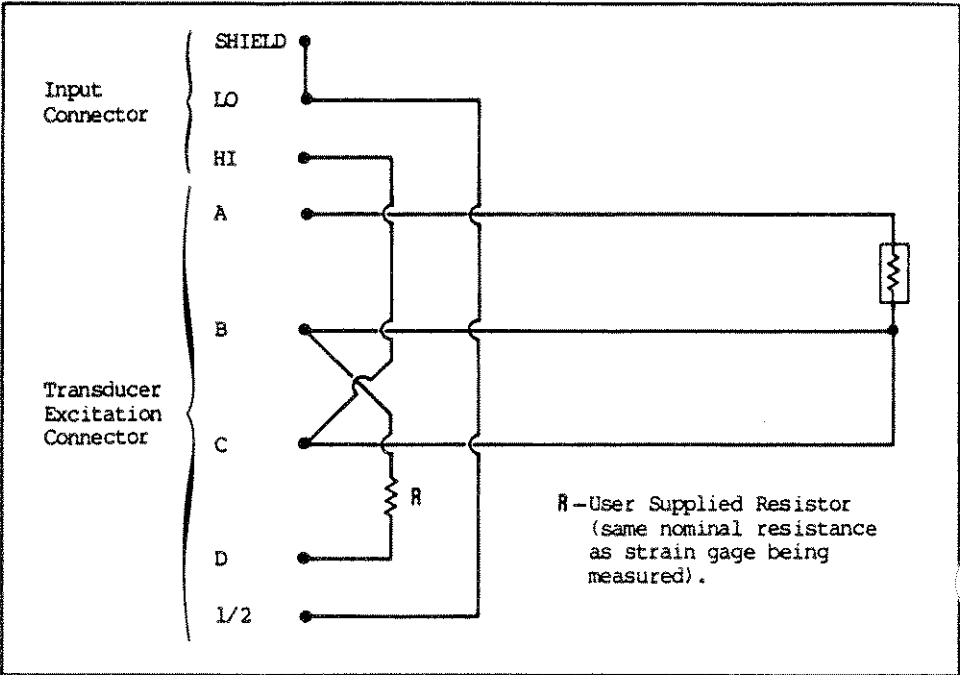

Figure 174-2. Wiring (1/4 Bridge Strain)
- o Strain measurements must be wired according to Figure 174-2, 174-3, or 174-4 for 1/4, 1/2, or full bridge configurations, respectively.